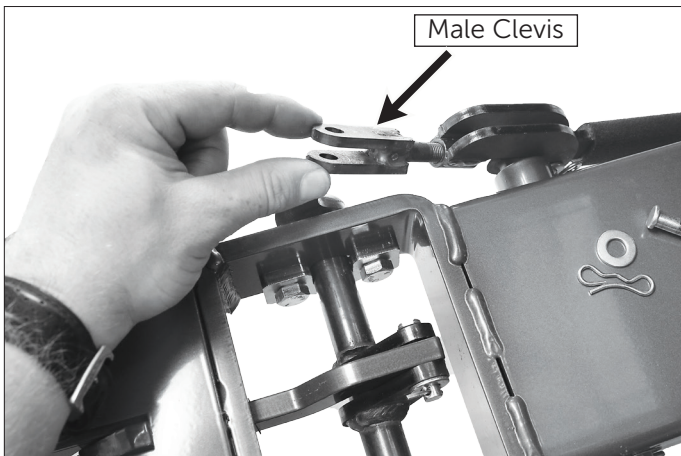

Figure 4.10: Hitch Lock Clevis
1. Adjust the H19 hitch lock clevis to properly secure the implement. To adjust the tension on the tongue latch, remove the bowtie clip and the clevis pin as shown in Figure 4.10, and twist the male clevis clockwise to tighten, or counterclockwise to loosen, as needed.